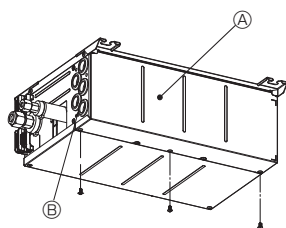
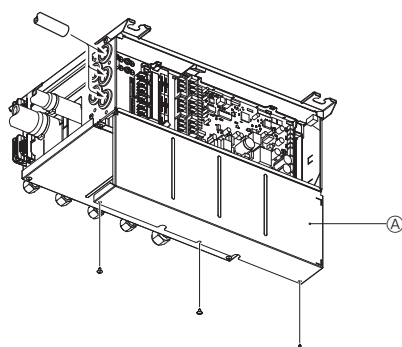
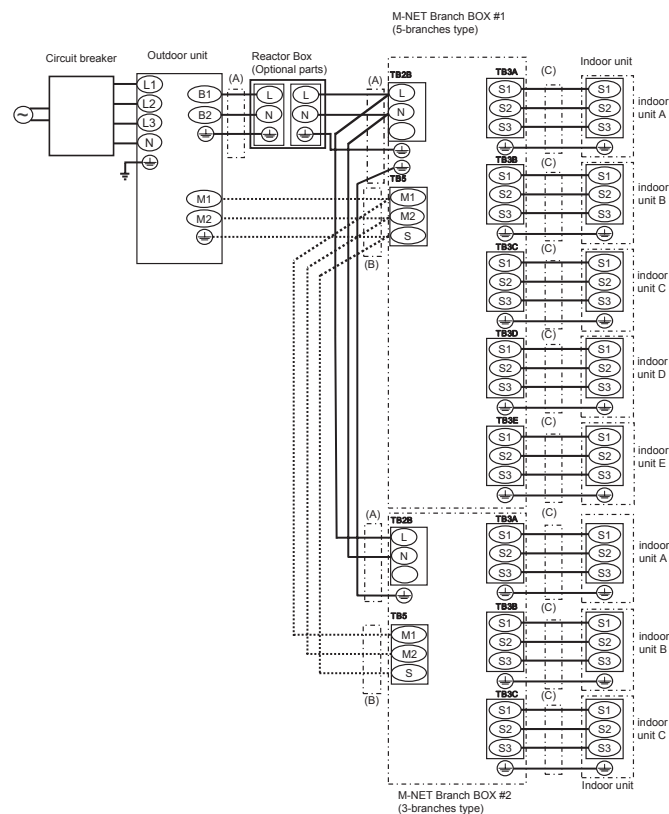

Fig. 8-1
Fig. 8-5
Fig. 8-8
- (1) Remove the electric cover. (Fig. 8-1)
- (2) Pass the wiring into the branch box each wire in place with a wiring clamp.
- (3) Firmly connect each wire to the appropriate terminal block. (Fig. 8-8)
- (4) Set dip sw. (Refer to 8.3)
- (5) Replace the electric cover.
8.1. When using wiring conduit (Fig. 8-5, 8-6, 8-7)
8.2. External wiring procedure (Fig. 8-8)